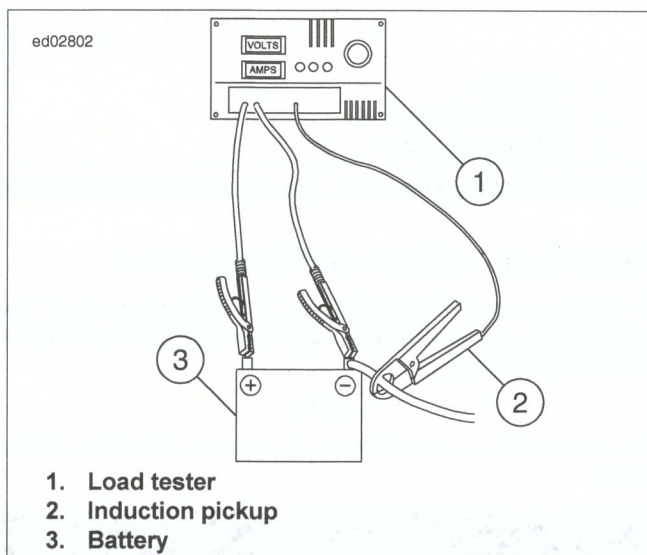

Figure 2-10. Check Current Draw (Ignition Switch On)
1. See Figure 2-10. Connect load tester.